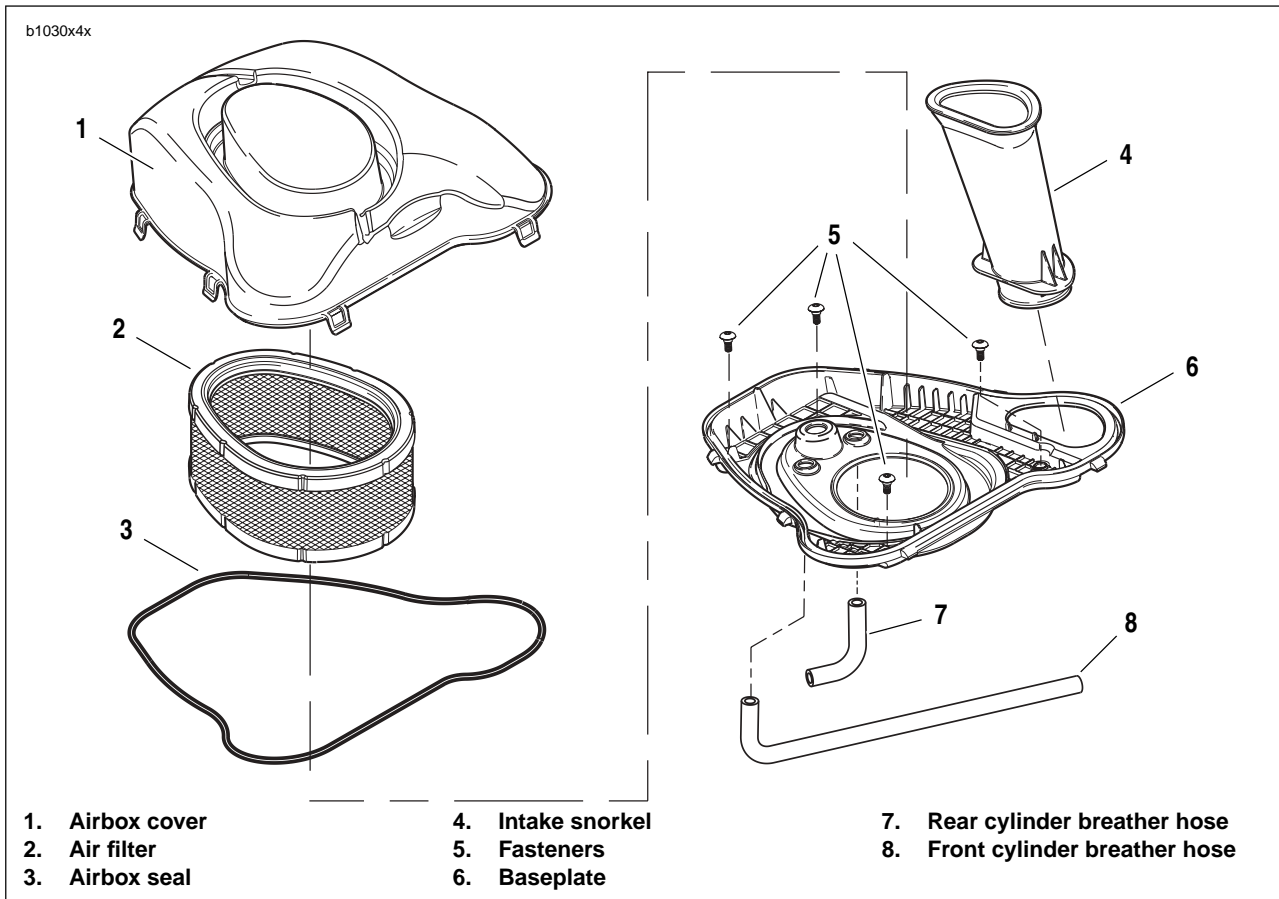

Figure 4-111. Airbox
1. See Figure 4-111. Hold baseplate above mounting position.